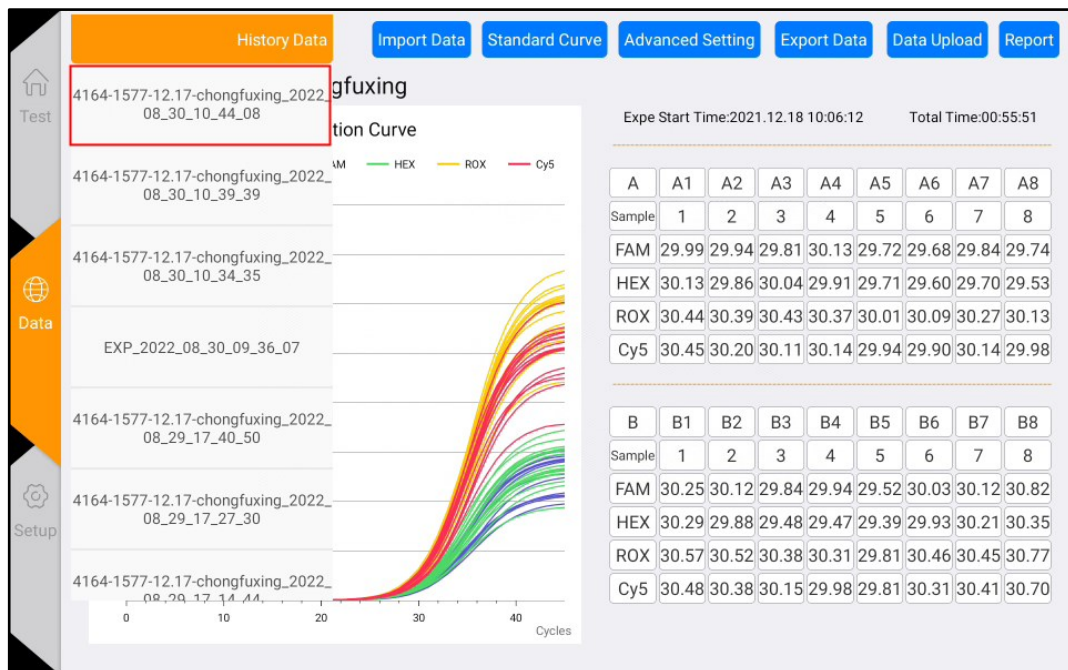

Figure 4-5-2 Date list
- 2) Click the History Data button above, you can pop up the historical experimental data results, select any one of the experimental results, you can view the data, such as Figure 4-5-2.